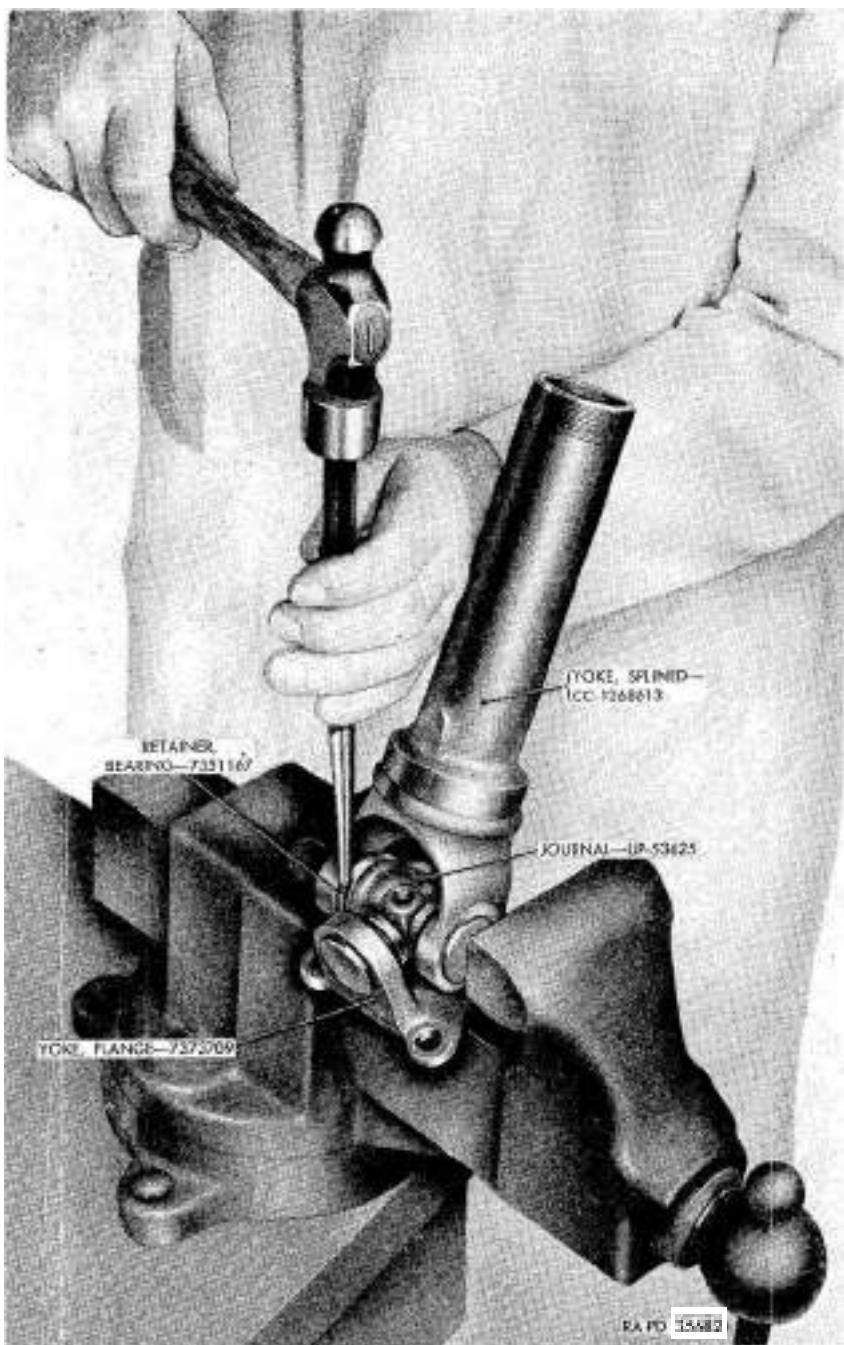

Figure 143. Removing bearing retainer.
- (1) Remove $\frac{1}{8}$ NPT straight lubricating fittings (K) and $67\frac{1}{2}$ -degree $\frac{1}{8}$ NPT lubricating fitting (S) from splined yoke (R) and journal (J).
- (2) Remove bearing retainers (A, E, W, and X) with a punch and hammer (fig. 143).
- (3) To remove the roller bearing assemblies, proceed as follows :